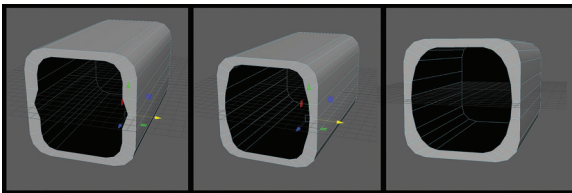

FIGURE 1.12 Using Vertex mode and symmetry to adjust the opening to create a round opening.
the marking menu) and select the vertex in the middle on the edge of the hole. Use the Move tool (W) to drag it away from the center a little. Select the vertex above the middle vertex, hold down shift, and click on the vertex below the middle vertex to add it to the selection. Drag them also away from the center. Work your way around the opening and adjust the vertices until you get a proper curvature for the side (Figure 1.12).